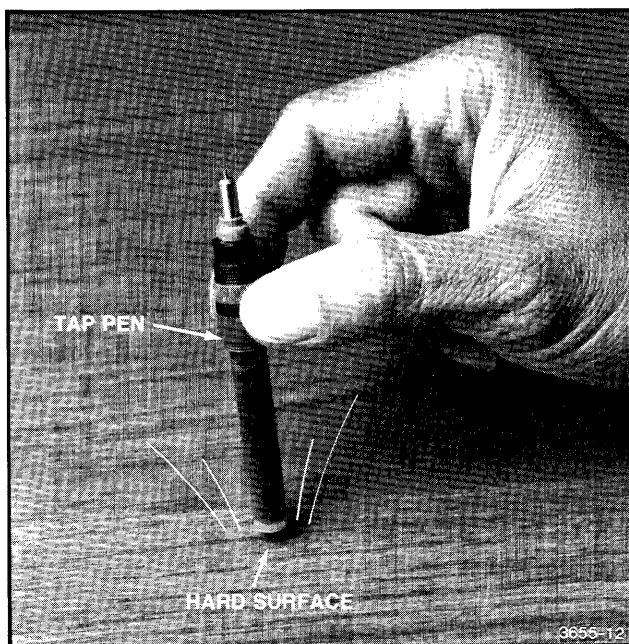

Figure E-11. Starting Ink Flow by Tapping the Ink Cartridge.
- Turn the pen **UPSIDE DOWN** and tap the ink cartridge sharply on a hard surface (see Figure E-11). Then, try writing on paper. Repeat if necessary.